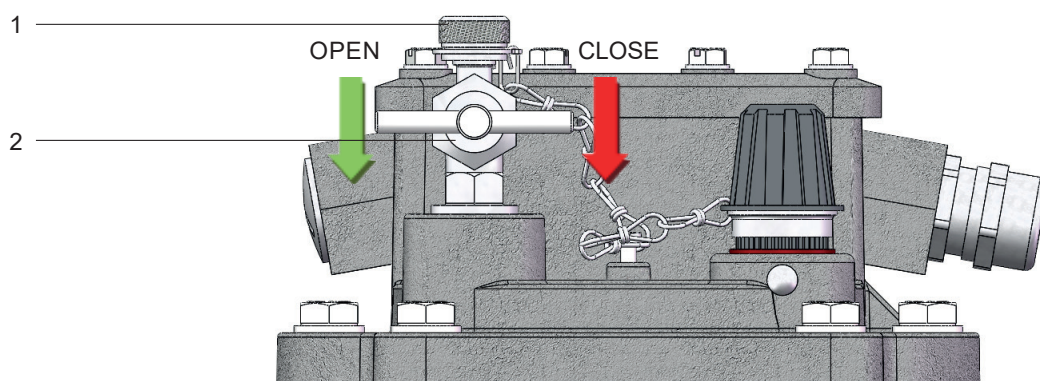

Fig. 4 - Bleeding valve
- Remove the small cap nut (Fig. 4/ no. 1) from the bleeding valve (Fig. 4/ no. 2).